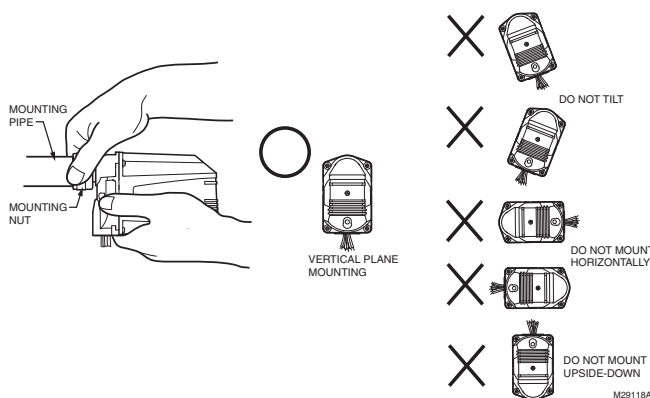

Fig. 6. Mounting C7061M Detector.
To mount a C7061M (see Fig. 6):
5. Clean the inside of the sight pipe before re-installing the flame detector (Fig. 6).